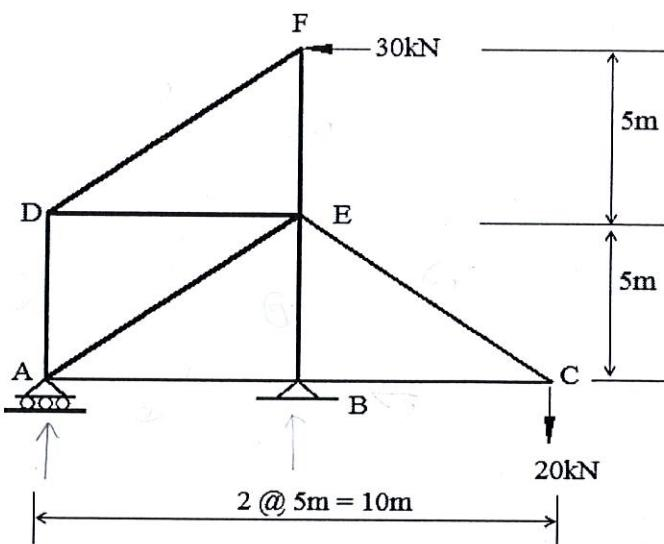

Figure B2 /Rajah B2
- CLO2 (b) Identify whether the truss shown in **Figure B2** is statically determinate or indeterminate.